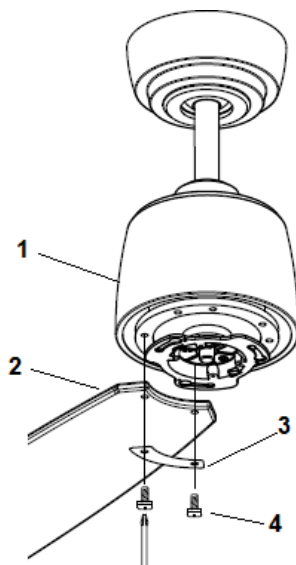

Fig. 8
- Insert the blade screws (4) through the blade assembly in the following order, bracket kit (3) and blade (2). Attach the blade assembly to the motor (1) and secure it by tightening the 2 screws (4). Fig. 8.